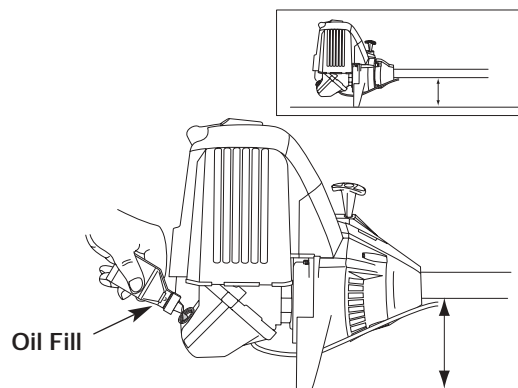

Fig. 18
2. Place the unit on a flat level surface (Fig. 18).
4. Pour the entire bottle of oil into the oil fill hole (Fig. 18).